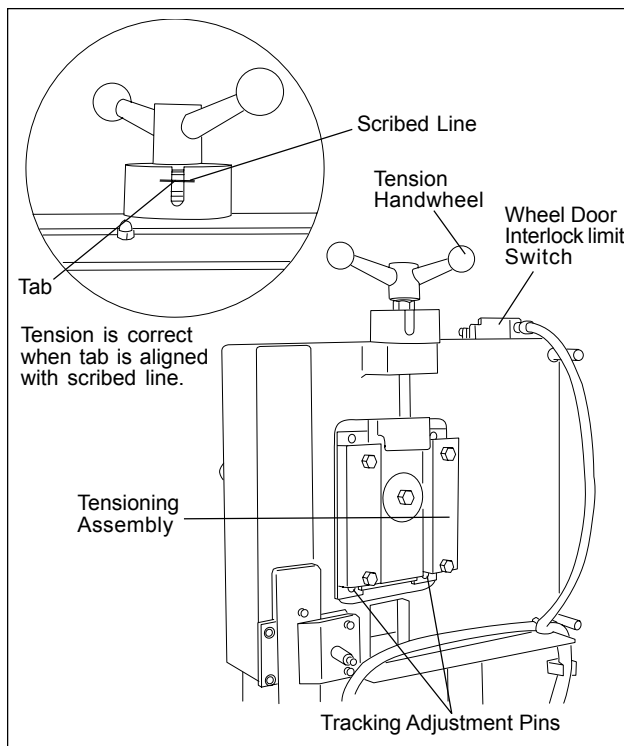

Figure 7. Adjusting Blade Tracking and Tensioning
The blade tension mechanism has a visual indicator of blade tension. The blade should be tightened until the tab on the indicator is aligned with the scribe mark on the tension assembly (see **Figure 7**).
Blade tracking has been tested at the factory. Adjustment is rarely required when the blade is used properly or if the blade is correctly welded. (See **Figure 7** for location of blade tracking adjustment screws.)
5. Be prepared to adjust the threaded adjustment pins in the blade tensioning mechanism (see **Figure 7**).